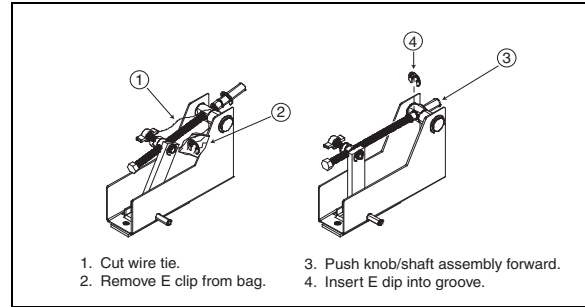

Fig. 2 Constant volume valves.
- E clip supplied for CVV adjustment mechanism. Must be inserted by installer (see Figure 2 next page).